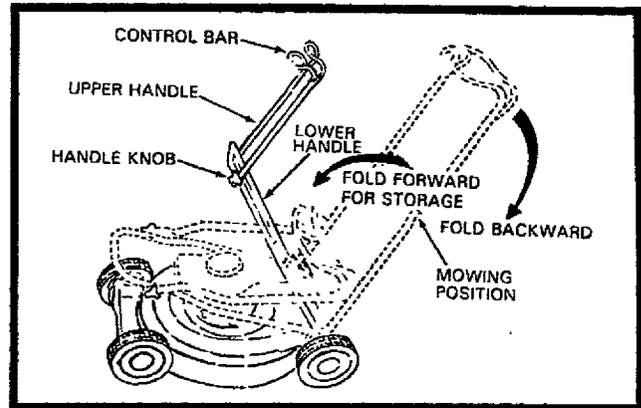

FIG. 14
- You can fold your lawn mower handle for storage as shown in Fig. 14.
IMPORTANT: WHEN FOLDING THE HANDLE FOR STORAGE OR TRANSPORTATION, BE SURE TO FOLD THE HANDLE AS SHOWN IN FIG. 14. IF YOU FOLD THE UPPER HANDLE SECTION THE WRONG WAY, YOU MAY DAMAGE THE CONTROL CABLE.